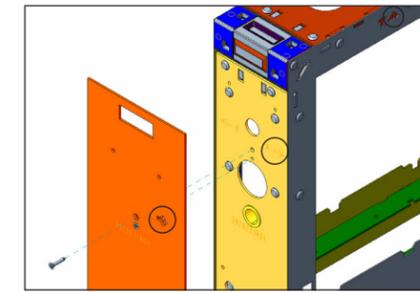
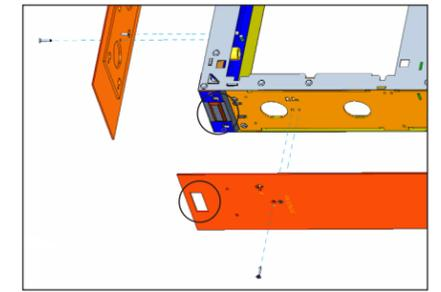

Figure 6: Face A Alignment
Figure 7: Corner Block Cutout
2. Match the orientation with the Face A arrows as shown in **Figure 6** and verify the corner block cutout in the spacer aligns with the protruding corner block alignment feature shown in **Figure 7**.